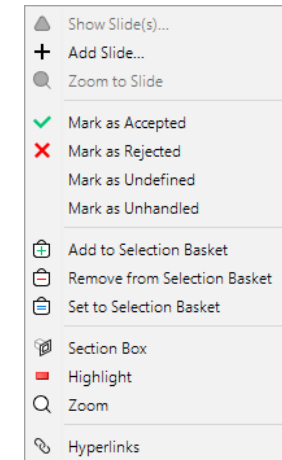
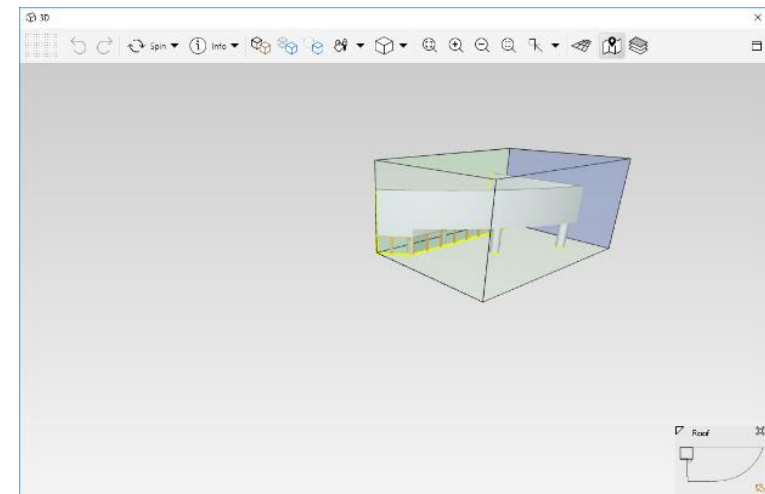

Figure 53: Popup menu
Figure 54: Section box
(12) Creating a **Section Box**: Select one of the issues or categories, click right your mouse, and choose **Section Box** in **Results View** popup menu (see Figure 53). Now a section box around the problematic components is created (see Figure 54).